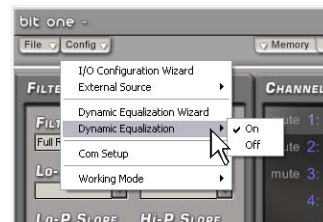

Fig.10
After enabling the “Dynamic Equalization”, the “Dynamic Equalization ON/OFF” provides the ability to turn on (ON) or off (OFF) the acoustic effect of the equalization while listening to music (Fig.10).